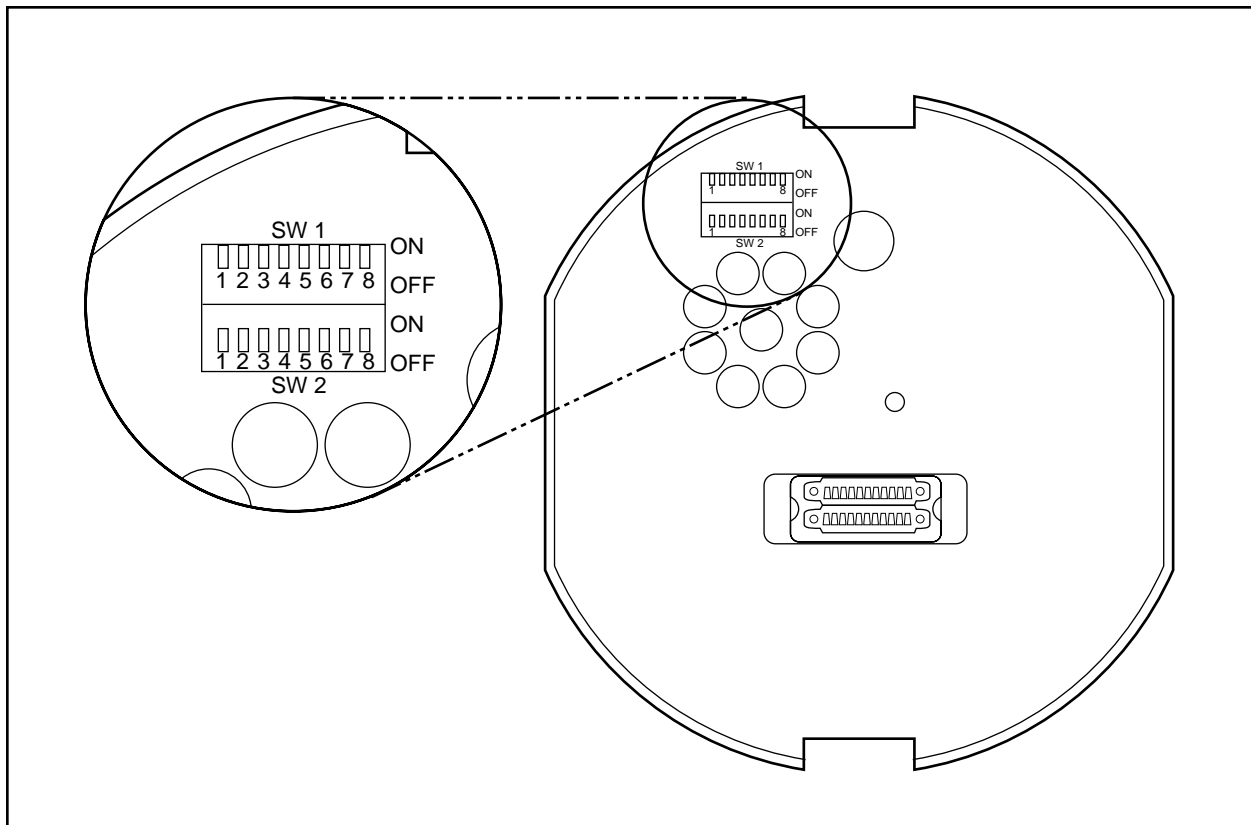

Figure 12. Switch Locations
2. Set the switches on the bottom of the dome drive. Refer to Figure 12 and Table C for the settings for SW1.
Refer to Figure 12 and Tables D and E for the settings for SW2.